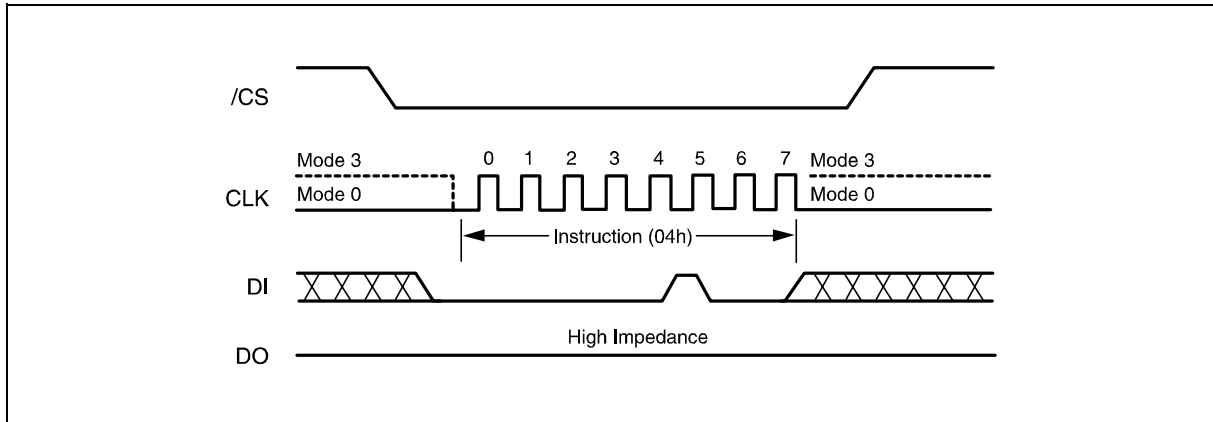

Figure 4. Write Disable Instruction Sequence Diagram
Instructions vary in length from a single byte to several bytes and may be followed by address bytes, data bytes, dummy bytes (don't care), and in some cases, a combination. Instructions are completed with the rising edge of edge /CS. Clock relative timing diagrams for each instruction are included in figures 4 through 21. All read instructions can be completed after any clocked bit. However, all instructions that Write, Program or Erase must complete on a byte boundary (/CS driven high after a full 8-bits have been clocked) otherwise the instruction will be terminated. This feature further protects the device from inadvertent writes. Additionally, while the memory is being programmed or erased, or when the Status Register is being written, all instructions except for Read Status Register will be ignored until the program or erase cycle has completed.
The Write Enable instruction (Figure 4) sets the Write Enable Latch (WEL) bit in the Status Register to a 1. The WEL bit must be set prior to every Page Program, Sector Erase, Chip Erase and Write Status Register instruction. The Write Enable instruction is entered by driving /CS low, shifting the instruction code "06h" into the Data Input (DI) pin on the rising edge of CLK, and then driving /CS high.